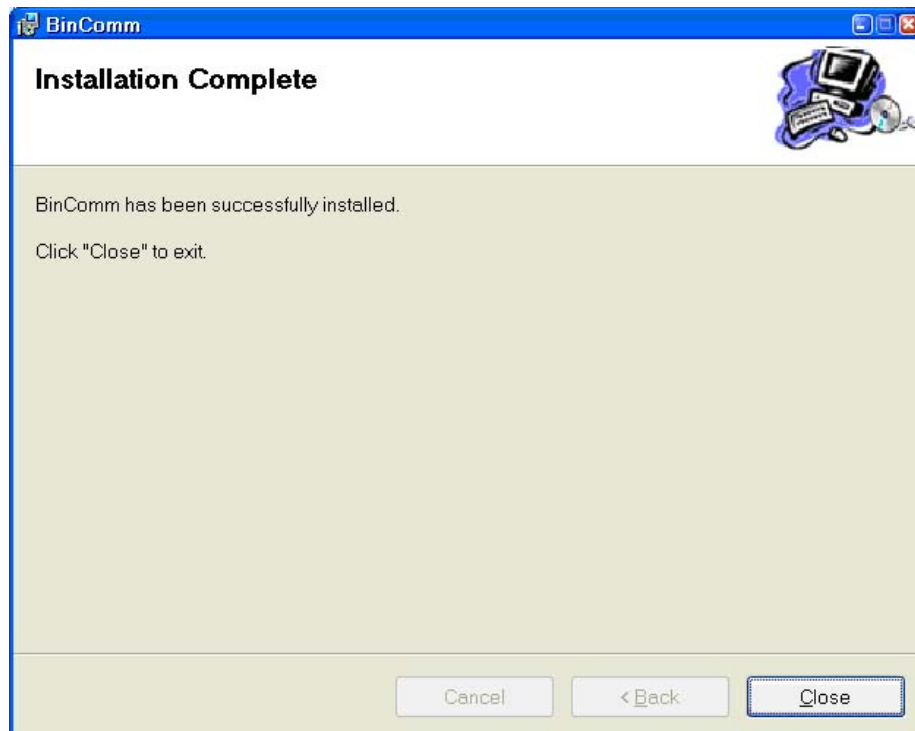

Fig. 4.3: BinComm Installation Complete
- 4.6 When the installation is finished, you will see a screen similar to Fig. 4.3.